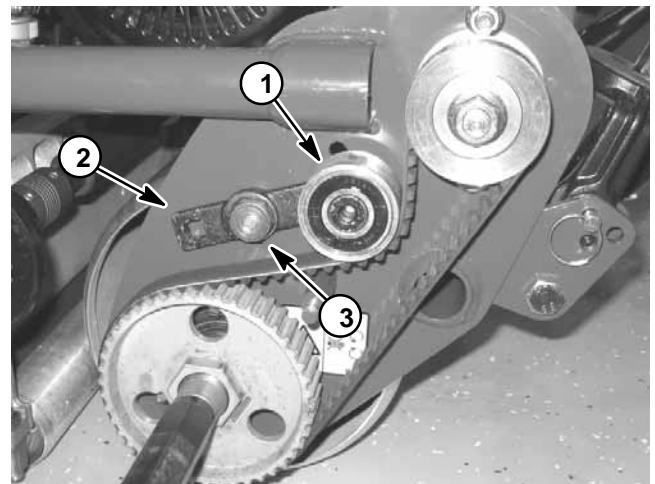

Figure 13
5. Remove cap screw and shoulder nut on which the idler assembly pivots (Figs. 13 and 14). Remove idler assembly.
3. Position idler assembly using cap screw and shoulder nut (Figs. 13 and 14). Tighten shoulder nut. Check that idler assembly can pivot freely after tightening shoulder nut.